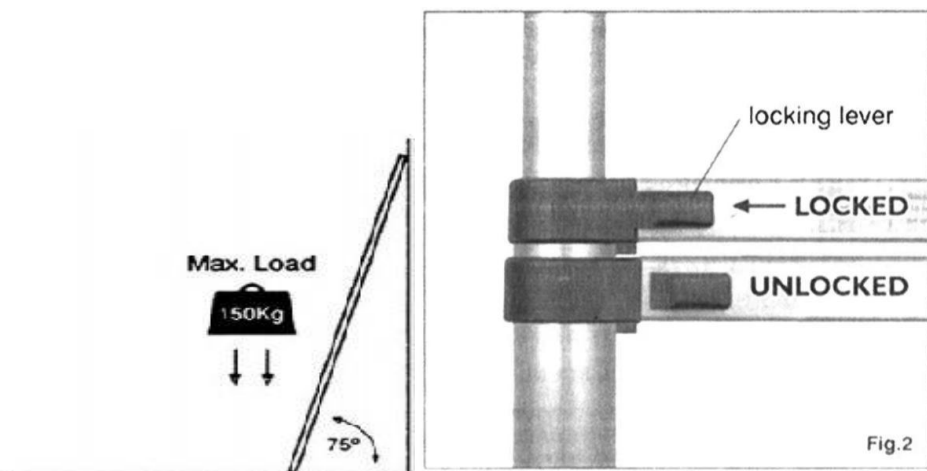

Fig.2
4. A lever that is close to the side rail indicates the mechanism is locked. A lever away from the side rail indicates that it is NOT locked (see Fig. 2)